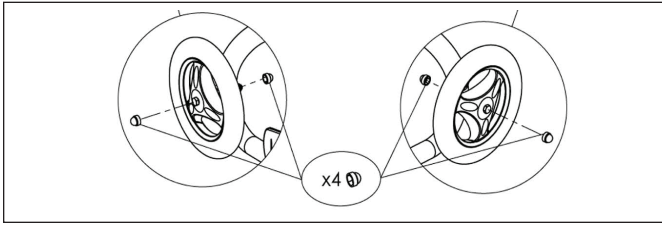

Figure 9. Attaching Wheel Caps
- Place two (2) caps on the wheels as shown in figure 9.